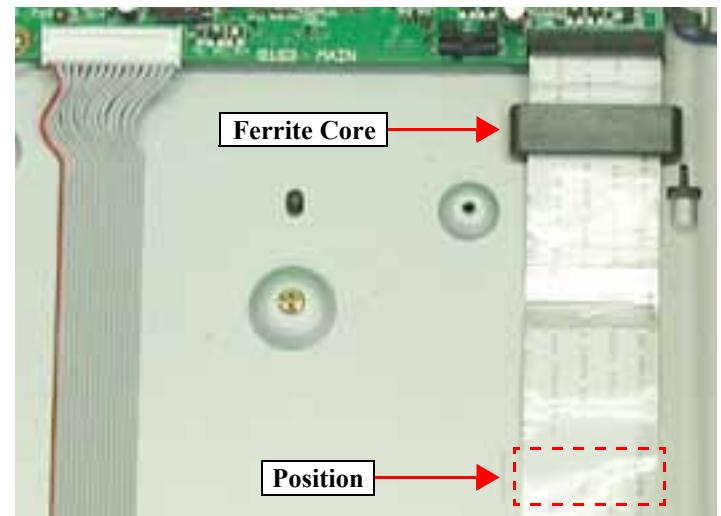

Figure 4-15. Installation of Carriage FFC
- Pass the Carriage FFC through the Ferrite Core and adhere it with a two-sided tape at the position shown in Figure 4-15.
Pass the Carriage FFC through the Ferrite Core, and adhere it with a two-sided tape at the position shown in **Figure 4-15**.